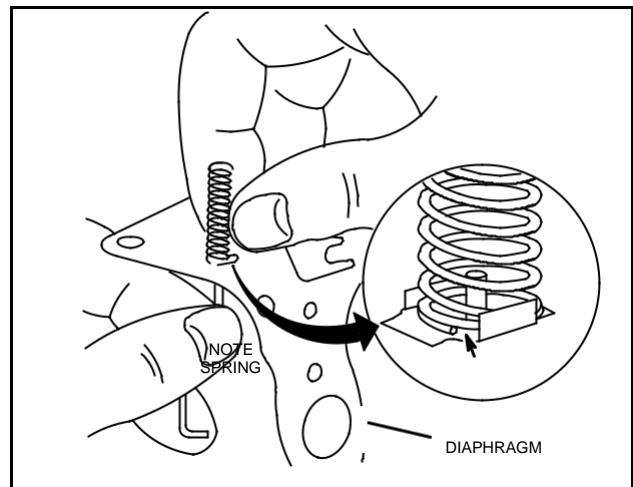

Fig. 241 - ASSEMBLING SPRING TO DIAPHRAGM
4. If a new diaphragm is being installed, assemble choke spring to diaphragm, as shown in Fig. 241. See Table No. 12 for correct spring usage. Be careful not to bend or distort spring.